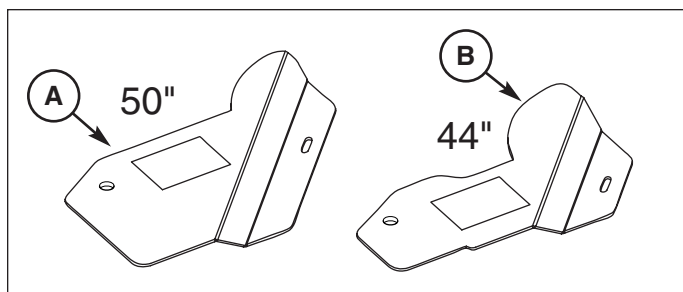

Figure 13. Belt Cover Plates
1. Attach the belt cover plate (B, Figure 13 & 14) to the support bracket (E) using a 5/16-18 x 1 capscrew (C), washer (D) and nylock nut (F).
NOTE: This cover plate must be able to pivot on the support bracket. Different belt covers are required for different applications. Refer to Figure 13.